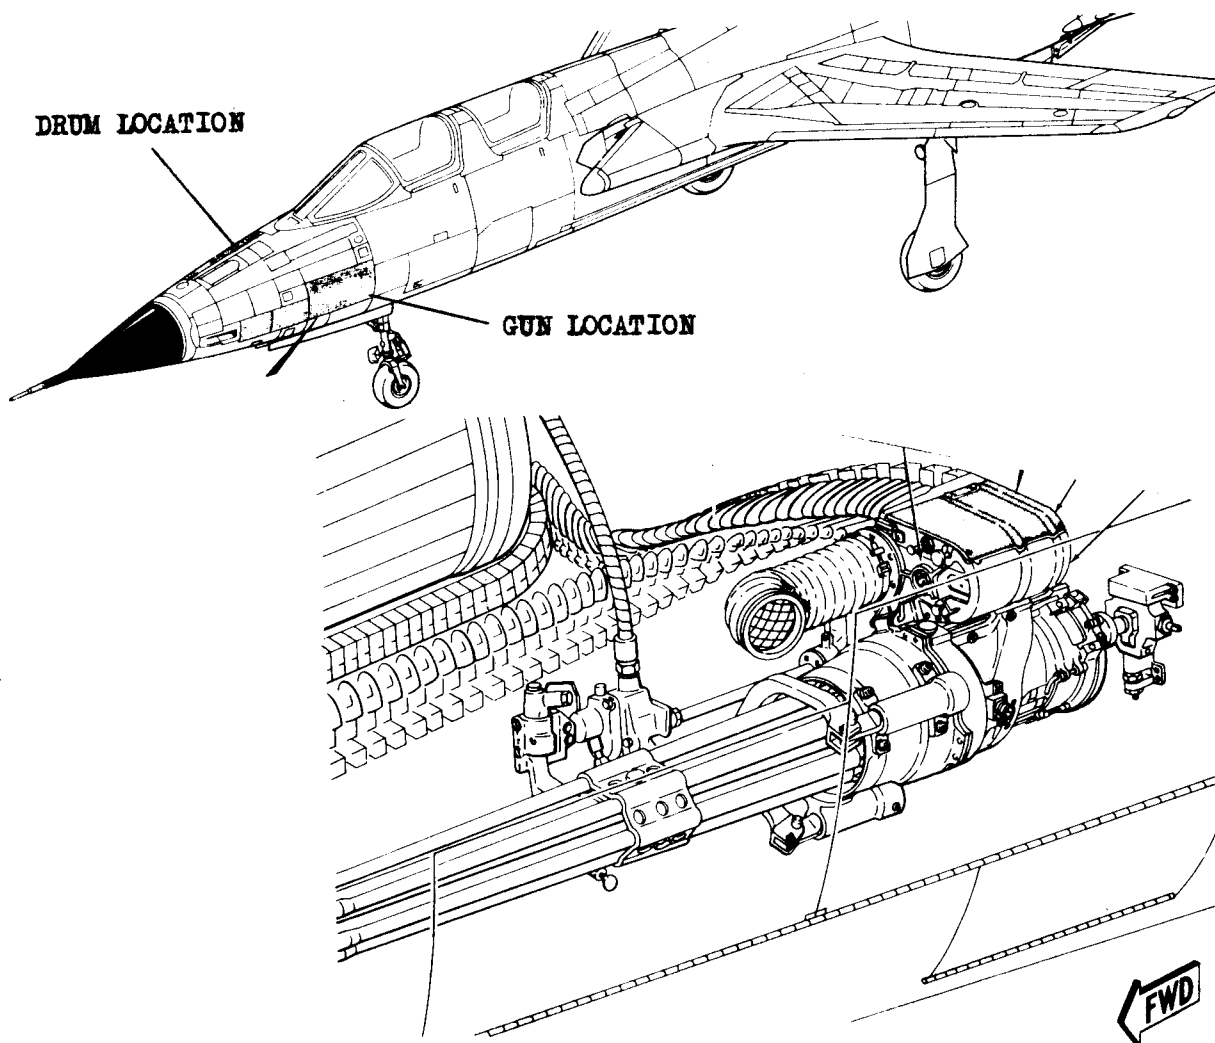

Figure 9-32. Gunnery System F-105D/F Aircraft
b. Gun. The gunnery system for the F-105D/F aircraft consists of one M61 20-mm automatic gun located on the left side of the fuselage nose section under the louvered panel. Panel FF15. (see figure 9-32)
c. Ammo. The ammunition system for the F-105D/F aircraft consists of 1028+1 rounds located in a drum. The drum is located under a panel on the upper right side of the fuselage nose section. The F-105D/F uses 20-mm electric-primed ammunition with "bore-safe" fuzing. (see figure 9-32)